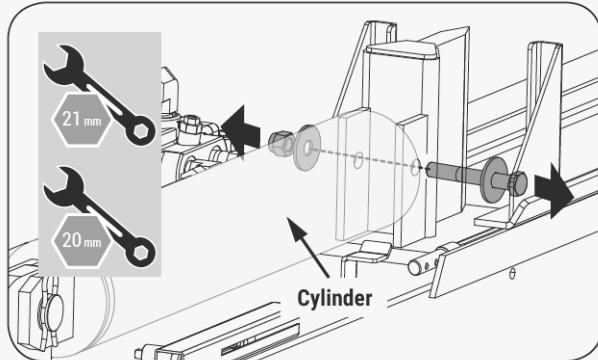

Figure 12a
1. Remove the bolt, washers and nut, which connect the wedge with the cylinder. (See **Figure 12a.**) Keep the removed hardware set aside for later use.